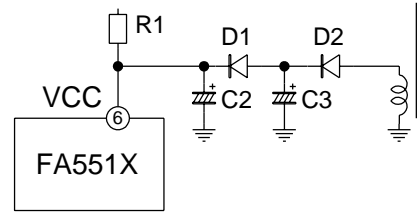

Fig. 23 Startup circuit (4)
In such case, the circuit shown in Fig. 23 is effective to shorten start-up period without increasing the loss of the resistor R1. The capacitor C2 is decreased to shorten the start-up period and, after the IC starts up, Vcc voltage supplied from C3 to prolong the hold time of the Vcc voltage. The start-up period of this circuit also is approximately given by the expression in (11)